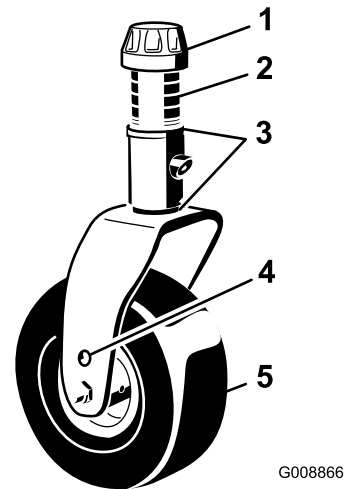

Figure 26
3. Adjust the shims (3 mm or 1/8 inch) on the front caster fork(s) to match the height-of-cut decal (Figure 26); refer to Adjusting the Height of Cut \(page 25\).